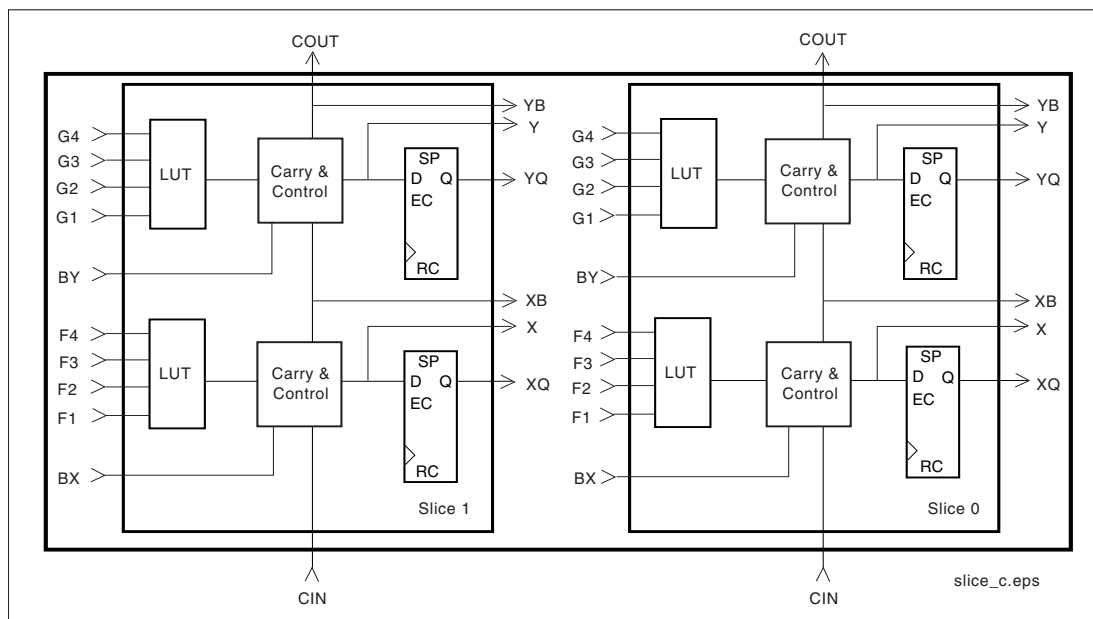

Figure 4: 2-Slice Virtex CLB
The basic building block of the Virtex CLB is the logic cell (LC). An LC includes a 4-input function generator, carry logic, and a storage element. The output from the function generator in each LC drives both the CLB output and the D input of the flip-flop. Each Virtex CLB contains four LCs, organized in two similar slices, as shown in Figure 4.